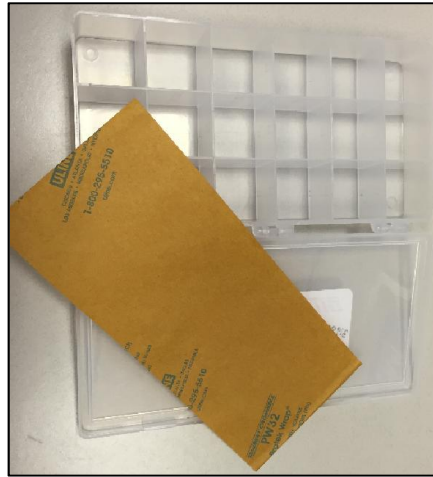

Figure 6 - Blister Carton for Spare Lifters
18.4.1. Lightly lubricate these lifters with utility oil or EF-411 and place them in a blister carton with a sheet of desiccant paper (as shown in Figure 6).